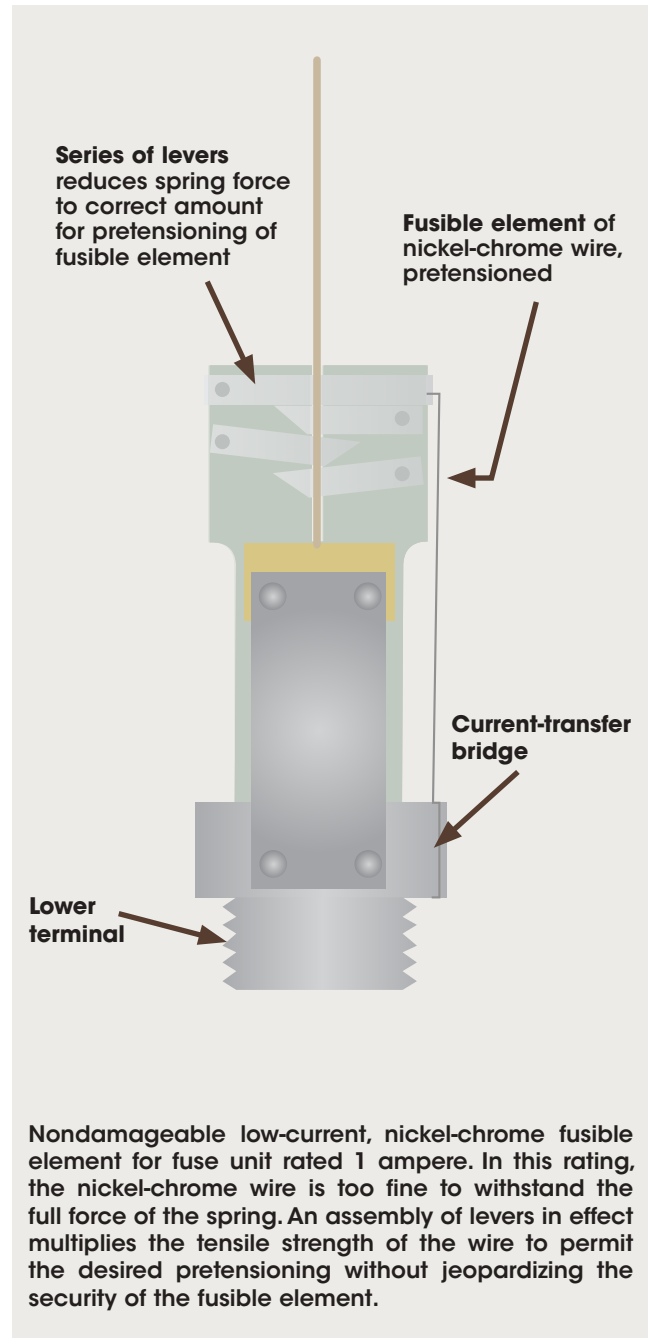

Figure 9. Features of S&C's fusible elements.
- **Operating economies.** There's no need to replace unblown companion fuses on suspicion of damage following a fuse operation. See Figures 9 and 10(a) and 10(b).